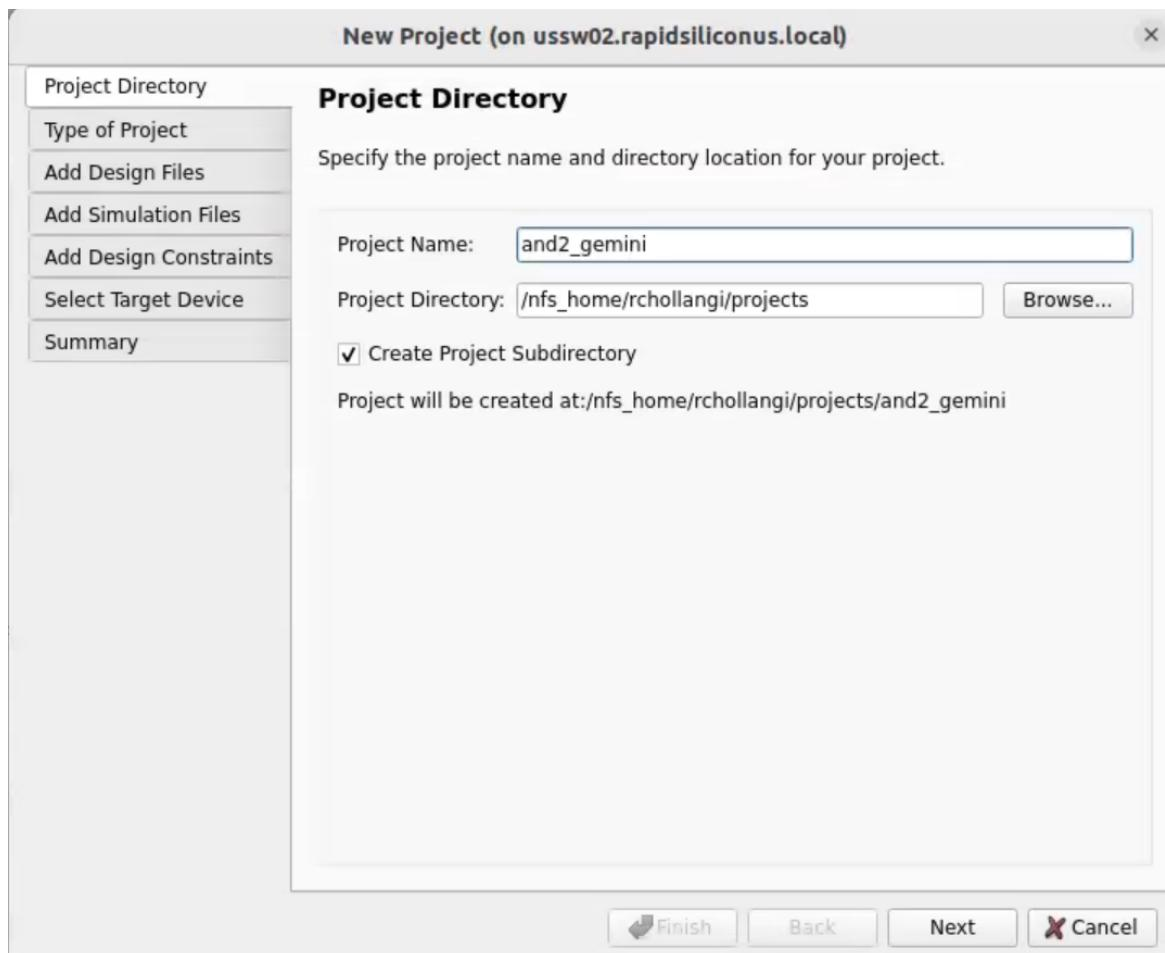

Figure 10. Project Directory Page
1. Project Directory: Set a project name and location as shown in Figure 10.